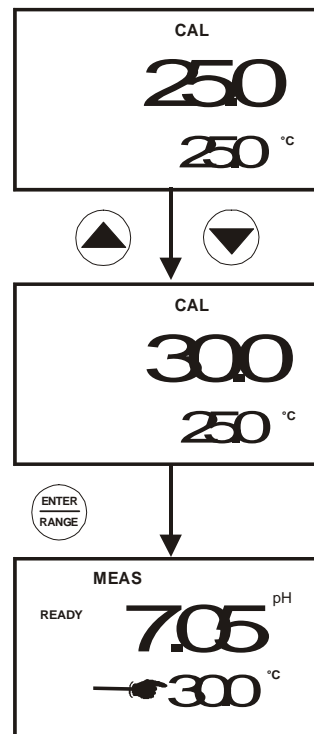

Figure 14: Manual temperature compensation
See Figure 14.
5. Press the ▲ or ▼ key to select the Automatic Temperature Compensation feature on (ATC) or off (ATC off). See Figure 14.